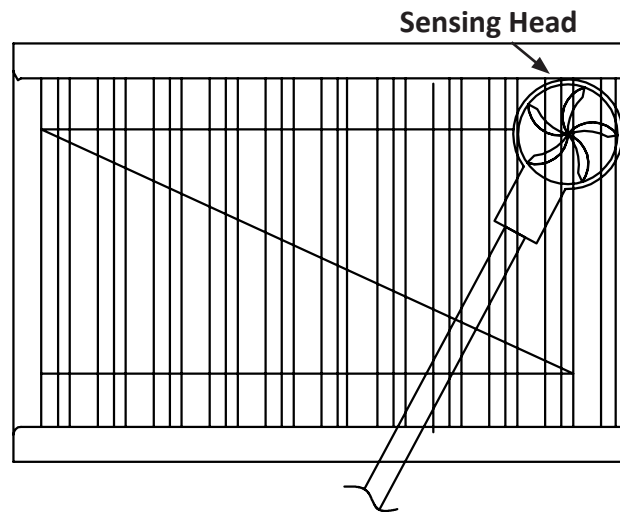

Figure 5-3-1
5. Attach the cable from the sensing head to the meter (refer to Figure 5-3-1 and 5-3-2).
7. Beginning at the left Extractor, called extractor No. 1, place the sensing head against the face of the Extractor, as shown in Figure 5-3-1.
8. Using the 16 second averaging feature on the meter, slide the sensing head in a “Z” pattern as shown on Figure 5-3-1, slowly, at a rate that would last roughly 16 seconds. If you reach the end of the “Z” pattern before the 16-Second interval has elapsed, continue moving the probe head back the other direction (without removing it) until the 16 second sample interval has expired.